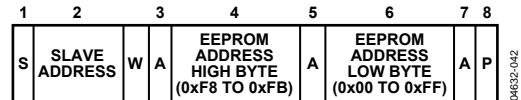

Figure 40. Setting an EEPROM Address
- To set up a 2-byte EEPROM address for a subsequent read, write, block read, block write, or page erase. In this case, the command byte is the high byte of EEPROM Address 0xF8 to EEPROM Address 0xFB. The only data byte is the low byte of the EEPROM address, as shown in Figure 40.